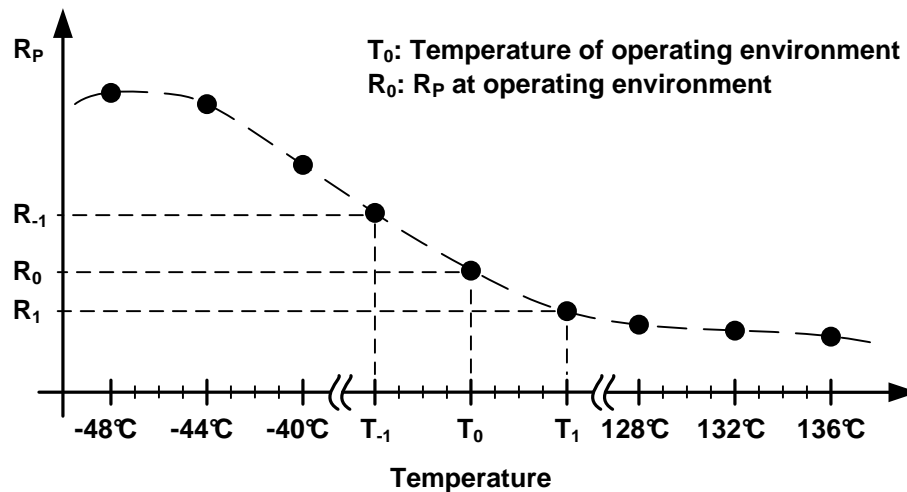
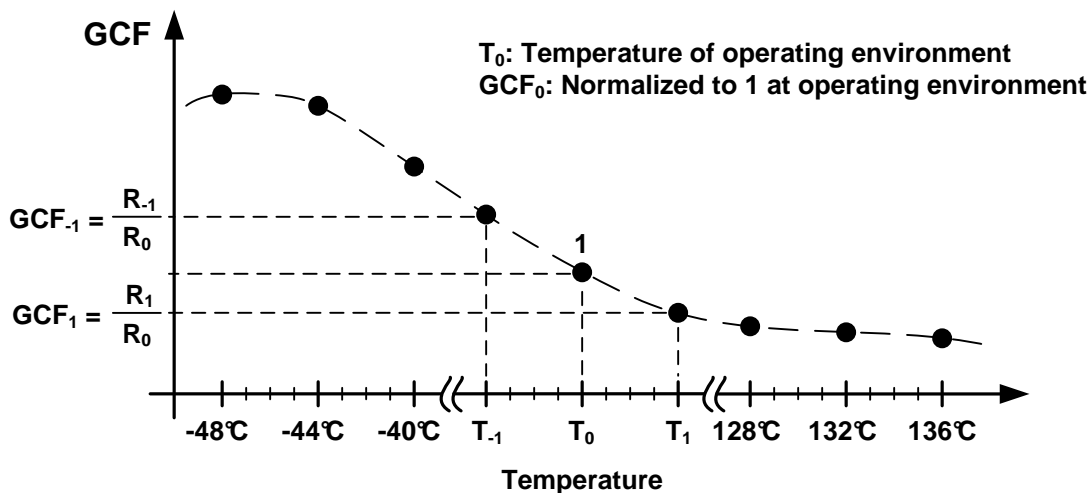

Figure 25. R_P Measurement Example
Figure 26. GCF Normalized Example
3. **Normalizing R_P :** Once all R_P values have been read and logged for the whole LUT temperature range as illustrated in Figure 25 the data must be normalized to the intended ambient operating temperature T_0 . This is done by dividing each R_P data point by R_0 , the measured R_P at the ambient operating temperature for each temperature of the LUT register. This ratio provides the gain correction factor coefficients (GCF) as shown in Figure 26. If the ambient operating temperature T_0 does not fall on one of the 4°C incremental points of the LUT then R_0 will need to be interpolated.